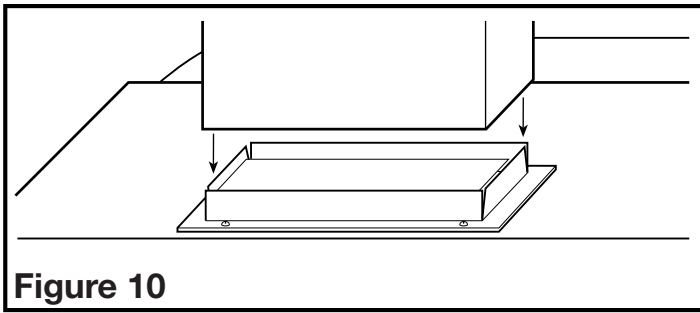

Figure 10
1. Connect the ducting to the hood's duct collar and damper. Ensure duct joints and exterior penetrations are sealed with caulk or other similar material to create an air-tight path to minimize building heat loss or gain and to reduce the potential for condensation. Place/wrap insulation around duct and/or fan in order to minimize possible condensation buildup within the duct, as well as building heat loss or gain (**Figure 10**).